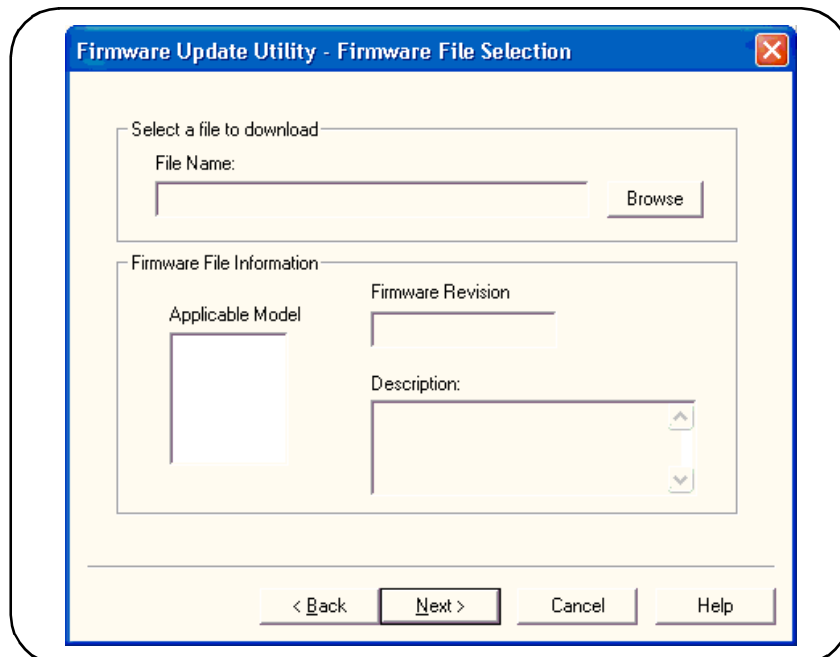

Figure 2-17. Firmware Update Utility File Selection Window.
1. From the directory where the update utility was installed, start the utility by selecting **FirmwareUpdateUtility.exe**. Select ‘Next’ until the window shown in Figure 2-17 appears.